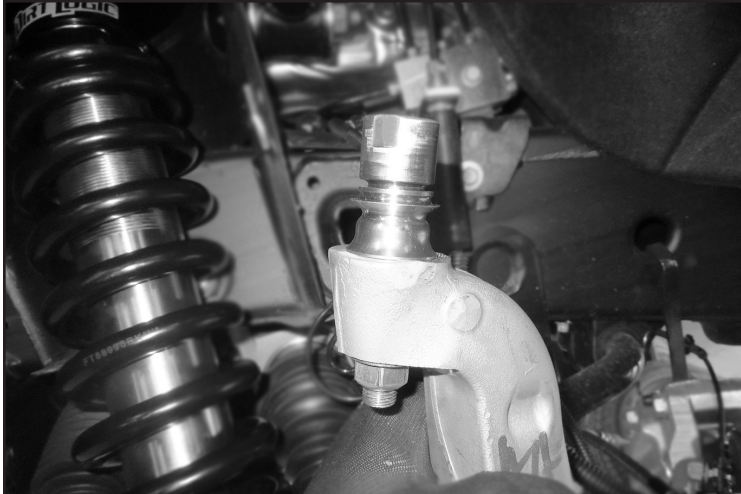

FIGURE 5 - STEP 9
- Install FT90153 (Lower misalignment) onto FT94535 (Uniball Pin). Then, install into the factory control arm using the supplied 9/16" nut and washer. Torque the nut to 135 ft-lbs. **SEE FIGURE 5**